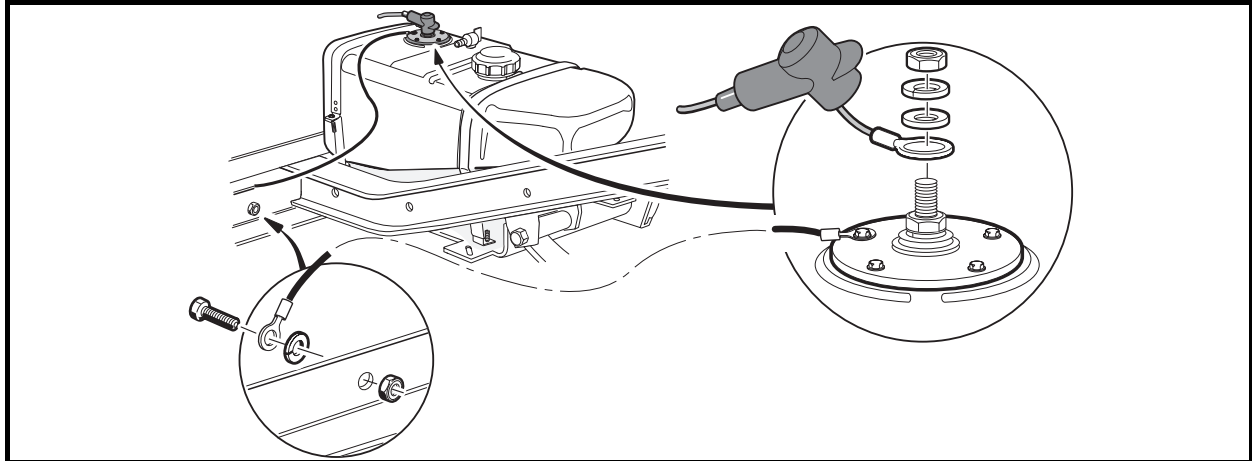

Figure 16-16 Fuel Level Sending Unit
8. If vehicle is equipped with a fuel gauge, disconnect the black wire and orange wire from the fuel level sending unit on the tank (**Figure 16-16, Page 16-23**). Do not remove the lower nut on the center stud of the sending unit. **See following WARNING.**
8. Slide the rubber boot over the stud (**Figure 16-16, Page 16-23**).